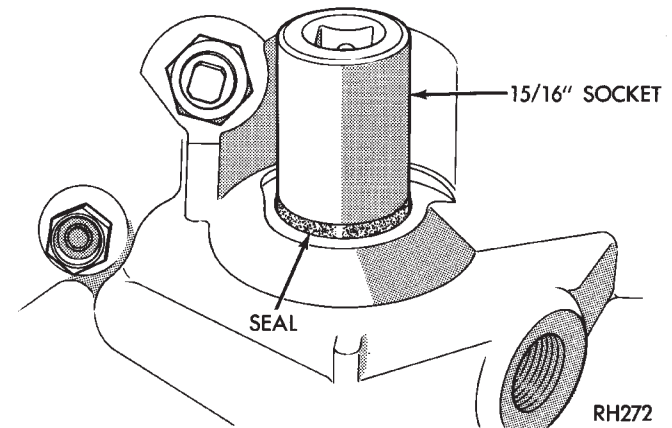

Fig. 16 Installing Manual Lever Shaft Seal
(5) Install accumulator inner spring and accumulator piston. A small amount of petroleum jelly can be used to hold piston in bore.
(6) Place valve body manual lever in low (1 position) so ball on park lock rod can be installed in sprag.
(7) Lubricate shaft of manual lever with petroleum jelly. This will ease inserting shaft through seal (in case).
(8) Lubricate seal rings on solenoid case connector with petroleum jelly.
(9) Position accumulator piston outer spring on valve body.
(10) Raise valve body and work end of park lock rod into and through sprag. Use screwdriver to align sprag if necessary.
(11) Align accumulator springs, manual lever shaft and solenoid case connector. Then seat valve body on case and install one or two bolts to hold valve body in place.
(12) Tighten valve body bolts alternately and evenly to 11 N•m (100 in. lbs.) torque.
(13) Install new fluid filter on valve body. Tighten filter screws to 4 N•m (35 in. lbs.) torque.
(14) Install new manual lever shaft seal in case if necessary. Use 15/16" deep well socket to seat seal (Fig. 16).